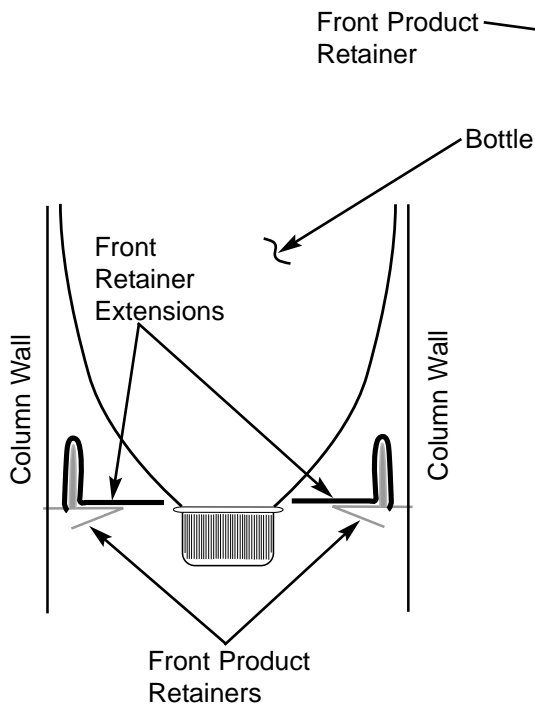

Figure 6
2. Install the Front Retainer Extensions to the top portion of the "Front Product Retainers", both left and right side. (See Figures 6 & 7 for correct positioning).